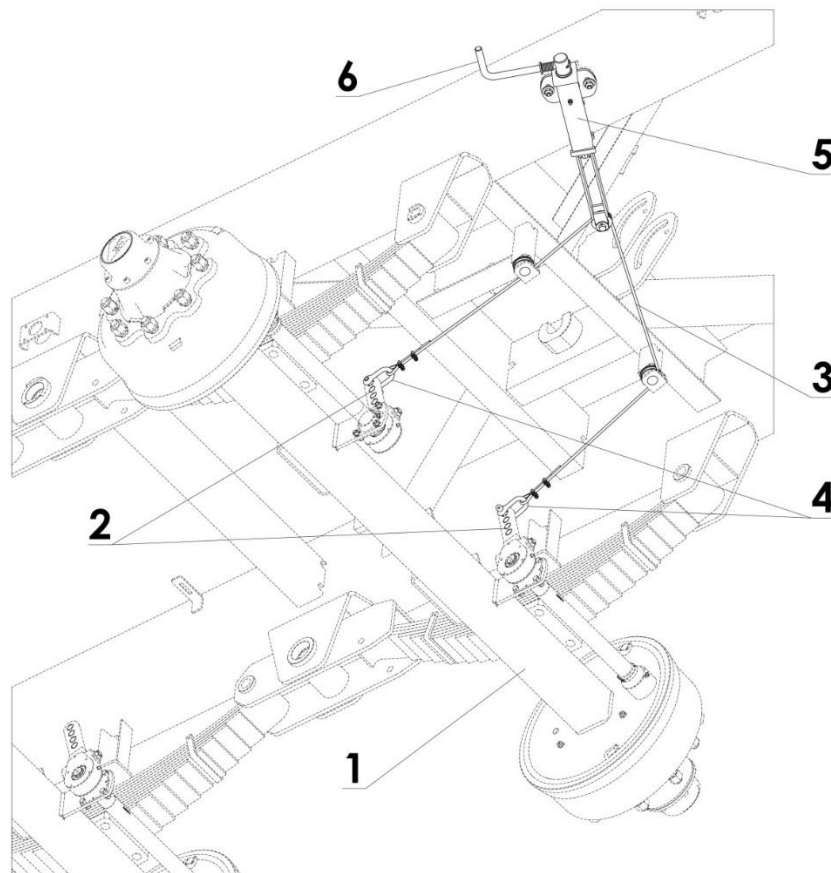

Figure 15. Parking brake
The parking brake (fig. 15) is used to immobilize the trailer when stationary. The brake crank mechanism (5), welded to the right side-member of the lower frame. The cord (3) connects the crank mechanism (5) to the expander arms (2) of the first driving axle (1). Tightening the cord (rotation of crank (6) mechanism clockwise) causes a shift of the arms of expanders (2) that, when parting the brake linkage, immobilize the trailer.